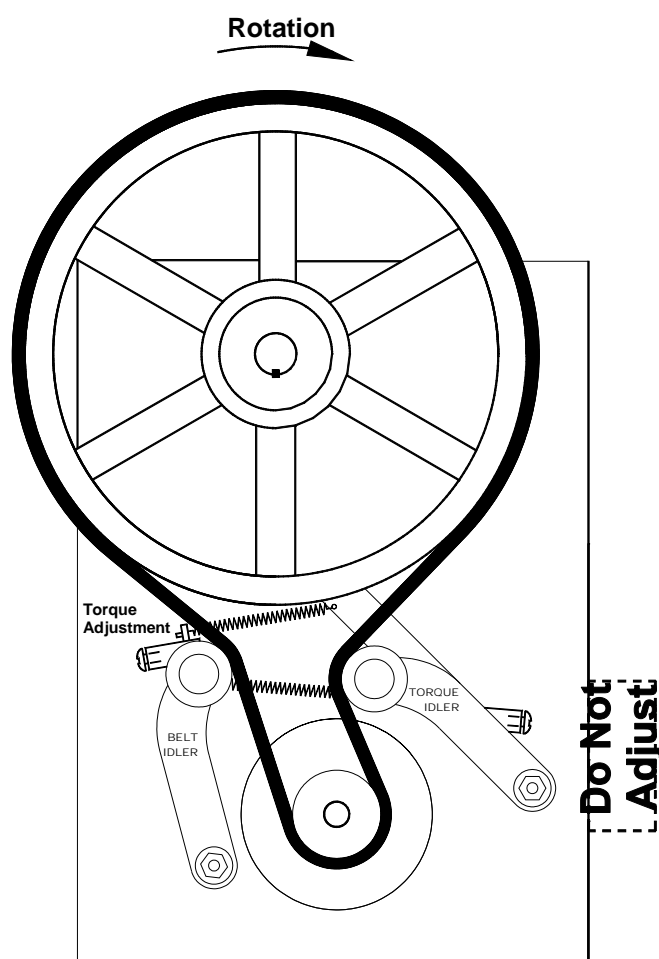

Fig. 28
2. Using a regular straight screwdriver, turn the mechanical consistency or torque adjustment screw (Fig. 28) clockwise to make the product harder and counterclockwise to make the product softer. Do not adjust more than two turns each time. **Do not** attempt to adjust the belt idler screw on the left side of the machine marked "**Do Not Adjust**".